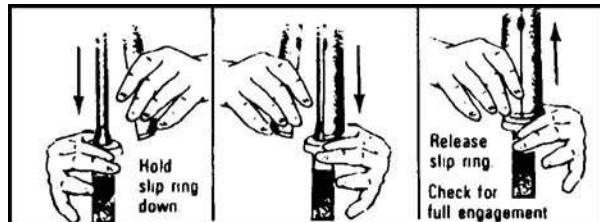

Figure 071-311-2025-38. Placing the handguards
- p. Replacing the sling (figure 071-311-2025-39).